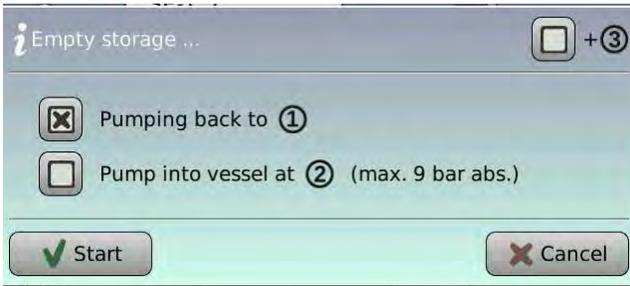

Fig 6.11
On the upper right of Figure 6.11 you can choose with “+ ③” to also empty a connected recovery bag GA45 in parallel to the onboard storage. This option can be chosen together with any pump back port ① or ②.